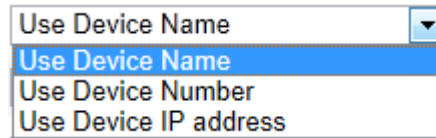

Figure 6-20 Parent Directory
- ◆ **Parent directory:** The files will be saved in a folder in FTP server. The name of folder can be defined as shown in following Figure 6-20.